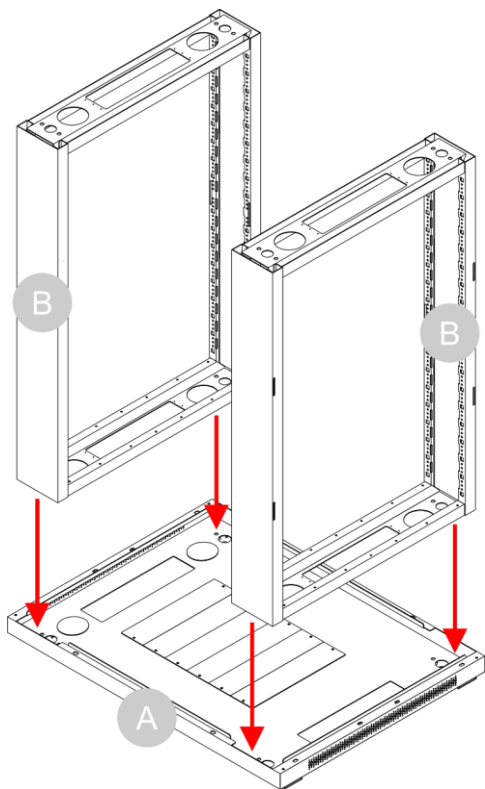

Fig. 19
- 02) Put the 2 **frames (B)** on the **bottom plate (A)**, as shown in Fig. 19.